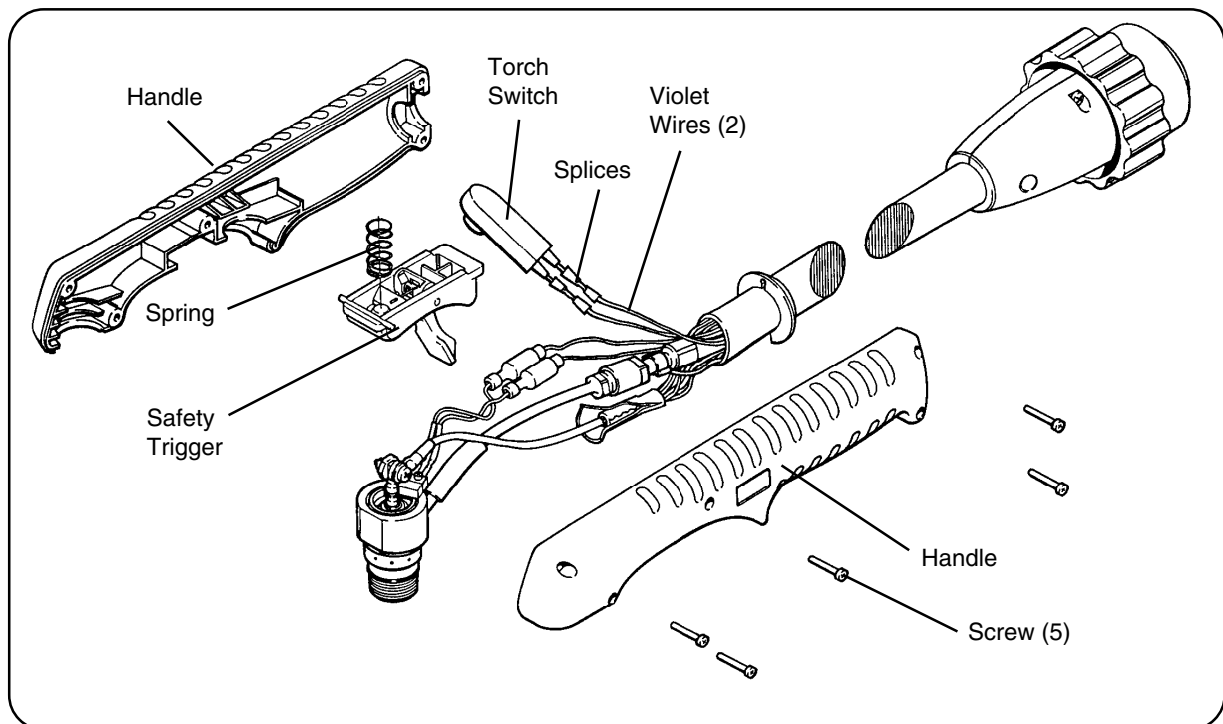

Figure 3-18 PAC125T Torch Switch Removal
2. Remove the 5 screws that secure the handle halves together and remove handles from torch main body, torch switch and safety trigger (Fig. 3-18).
7. Install the torch main body and torch switch back into the handle (Fig. 3-18). Be certain that the torch switch slides into position above the safety trigger, and that trigger movement activates the switch pushbutton and then releases. While positioning the handle halves together, be careful not to pinch any wires.
To remove and replace the torch switch, order the torch switch repair kit (see **Section 7** for part number) and refer to the following procedure and Figure 3-18. See **Section 7** for a complete list of torch parts.